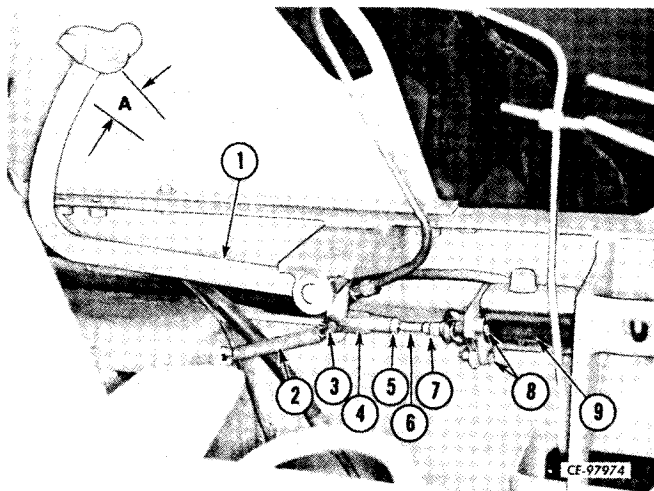

Figure 13-17
Check and correct fluid level before final adjustment. If any part of brake system has been serviced, system must be bled. Refer to "BLEED HYDRAULIC BRAKE CIRCUIT." Inability to maintain proper fluid level usually indicates a system leak. Adjustment of brake pedal travel must be done from under right hand floor panel (Refer to Fig. 13-2) by shortening or lengthening rod (7, Fig. 13-17) between master cylinder and brake pedal arm (2).